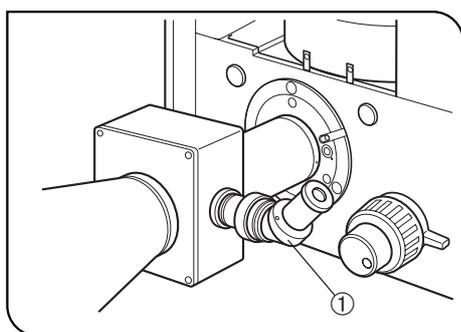

Fig. 74
- ☉ If the viewfinder of the photomicrographic system mounted on the side port is hard to view, it is recommended to use the optional U-FTV V-shaped focusing telescope ①. (Fig. 74)
- Slide the top portion of the U-FTV ① up or down until the photo masks are brought into focus. (Fig. 74)